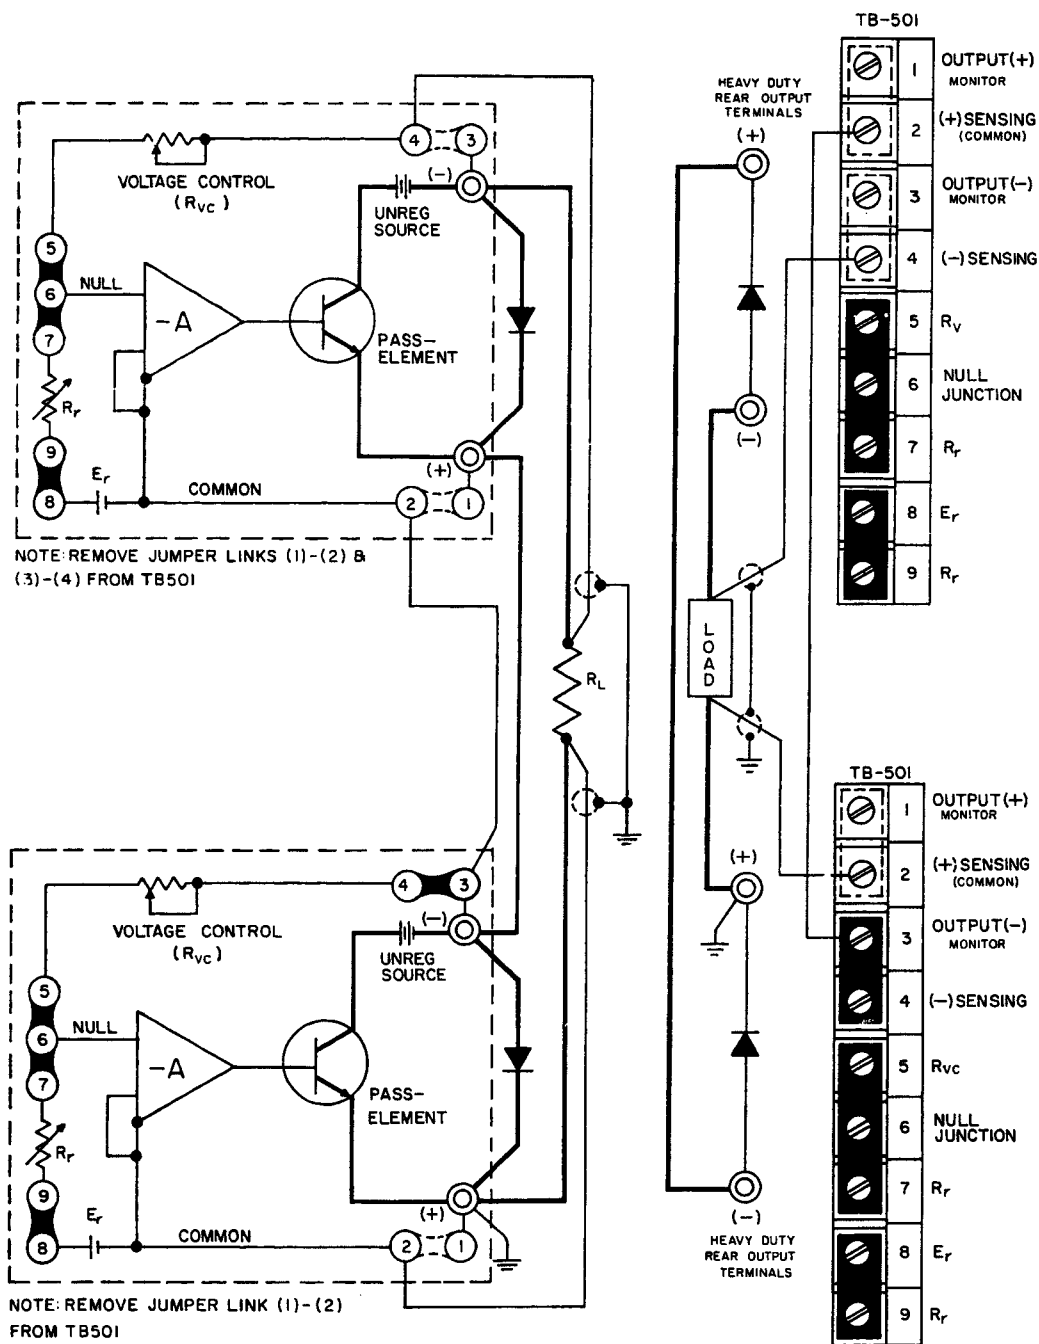
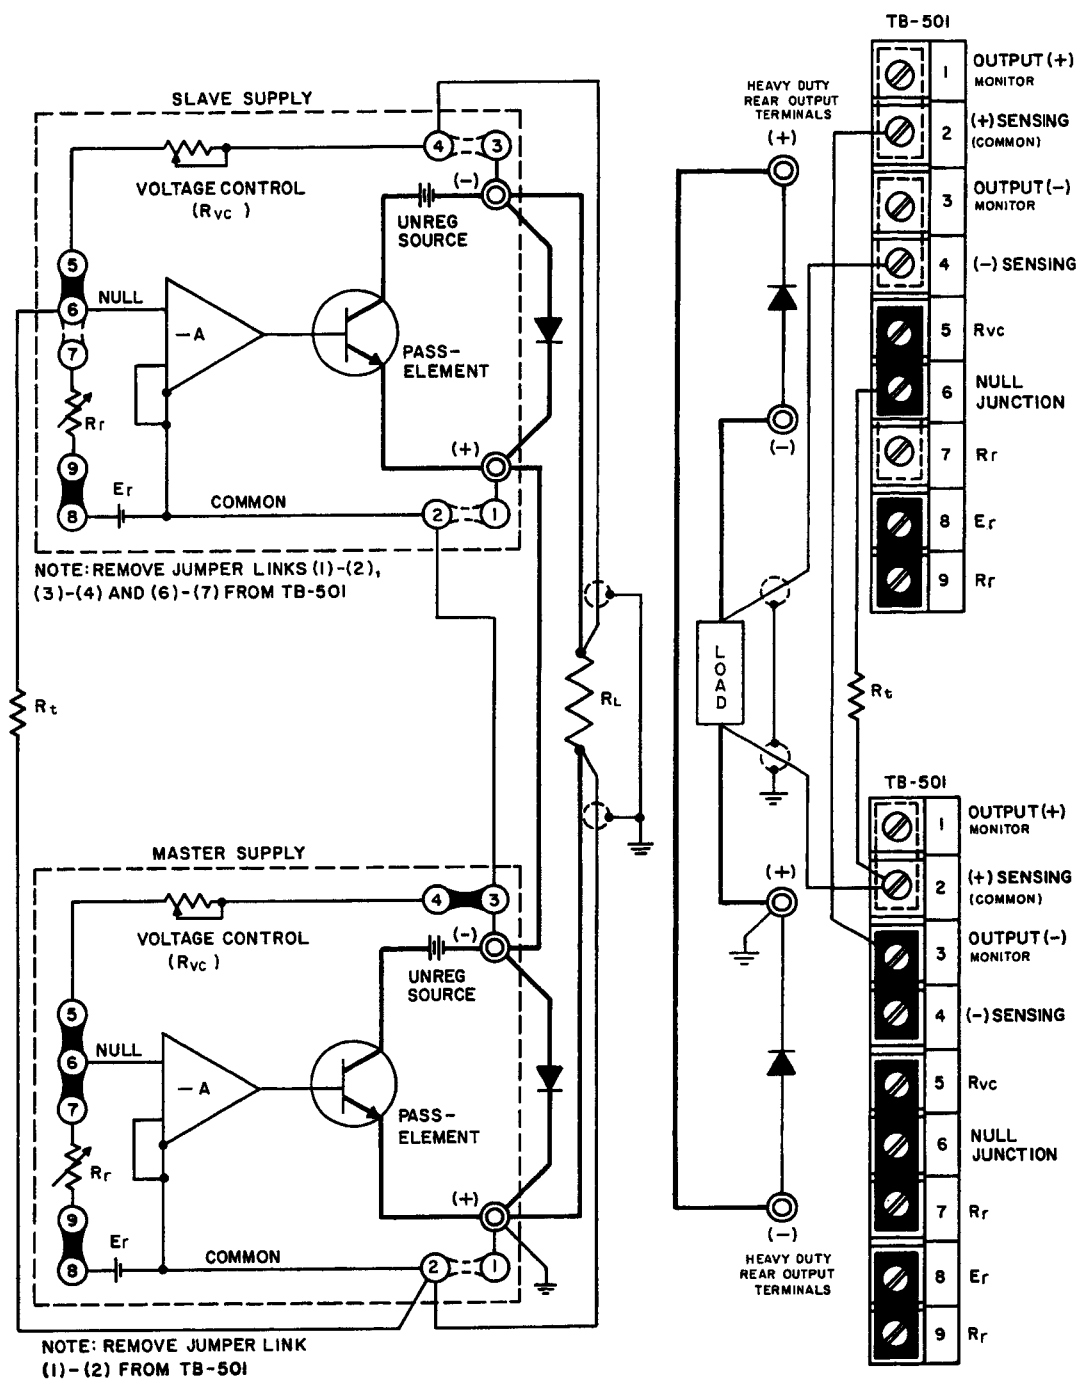

FIG. 3-10 AUTOMATIC SERIES CONNECTION OF KEPKO POWER SUPPLIES
FIG. 3-11 MASTER-SLAVE SERIES CONNECTION OF KEPKO POWER SUPPLIES
3-35 GENERAL. Kepco Power Supplies can be series-connected for increased voltage output, provided the specified limits on voltage to chassis are not exceeded. When series-connected, the supplies should be protected by means of a semiconductor diode across the output terminals of each power supply, as shown in FIG. 3-10. The peak inverse rating of these diodes must be at least as large as the output voltage of the supply to which they are connected. The continuous current rating of the diodes should be at least as great as the largest short-circuit current of the interconnected supplies.
3-36 Two basic series connection methods are generally used, the "Automatic Series Connection", as illustrated in FIG. 3-10, and the "Master-Slave" connection, shown in FIG. 3-11. The basic difference between these two alternate methods lies in the manner of the output control. While in the "Automatic" connection the outputs of both supplies may be controlled individually, in the "Master-Slave" connection, control is exercised from the "Master" supply alone, while the "Slave" supply follows the master command in a ratio which may be pre-determined by the user. The latter method of series operation is therefore frequently termed "Automatic Tracking".
- Connect load as shown in FIG. 3-10. Keep voltage drop in load wires as low as practical by using heavy gauge wire.
3-38 The "Master-Slave" series connection method is illustrated in FIG. 3-11. As seen from the figure, the reference voltage (E_r) of the "Slave" supply is disconnected and its input or null junction is connected to the output of the "Master" supply via the tracking resistor (R_t). The "Slave" supply output is thus completely dependent on the "Master" output voltage:
- Connect load as shown in FIG. 3-11. Keep voltage drop in the load wires as low as possible by using heavy gage wire.
- Remove jumper links as shown (FIG. 3-11) and connect error sensing leads if remote sensing is desired. Sensing leads should be twisted and shielded.
- Select value of the tracking resistor (R_t) and connect with shielded wire as shown (FIG. 3-11).